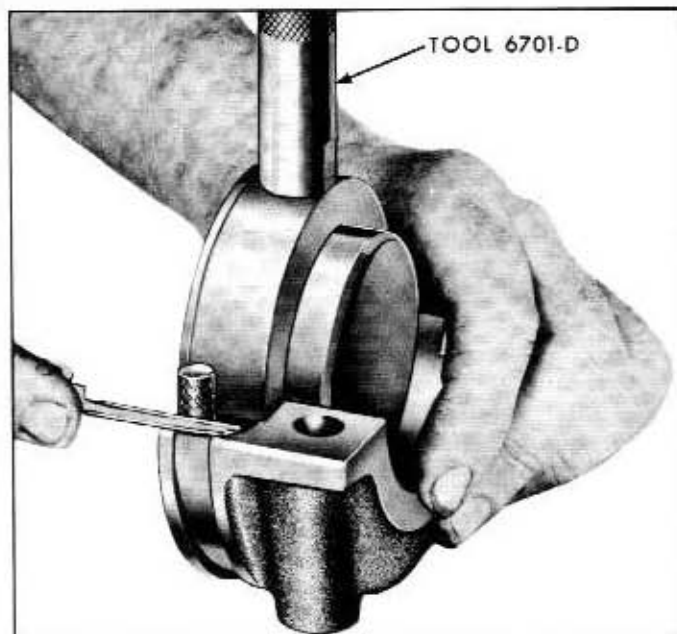

Fig. 6A-84—Seal to Ring Bearing Cap Installation—(60C-5634)
Be sure that the rear journal oil seal groove is clean. Install a new rear journal oil seal in the rear main bearing cap. See figure 6A-84. After installation, cut the ends of the seals flush. Install the rear main bearing cap. Dip the side seals in light engine oil, then immediately install them in the grooves. **Do not use sealer on the side seals. The seals are designed to expand when dipped in oil. Using sealer may retard this expansion. It may be necessary to tap the seals into place for the last $\frac{1}{2}$ inch of travel. Do not cut the seal projecting ends.**
Install the thrust bearing cap with the bolts finger tight. Pry the crankshaft forward against the thrust surface of the upper half of the bearing. Refer to figure 6A-39 under "Engine Assembly" in this section. Hold the crankshaft forward and pry the thrust bearing cap to the rear. This will align the thrust surfaces of both halves of the bearing. Retain the forward pressure on the crankshaft. Tighten the cap bolts to specifications.
21. Position the oil pan gaskets on the cylinder block. Position the oil pan front seal on the cylinder front cover. See figure 6A-53 under "Engine Assembly" in this section. Position the oil pan rear seal on the rear main bearing cap. Install the oil pan and related parts as explained under "Oil Pan Installation" in this section. Install the oil level dip stick.